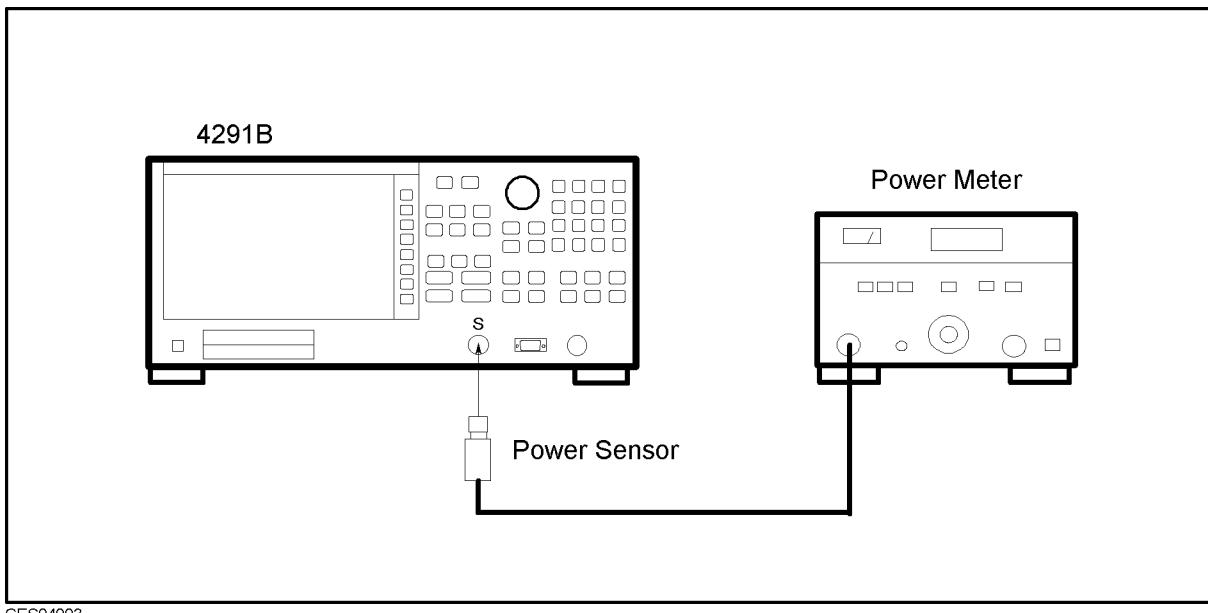

Figure 4-3. Source Test Setup
3. Connect the equipment as shown in Figure 4-3.